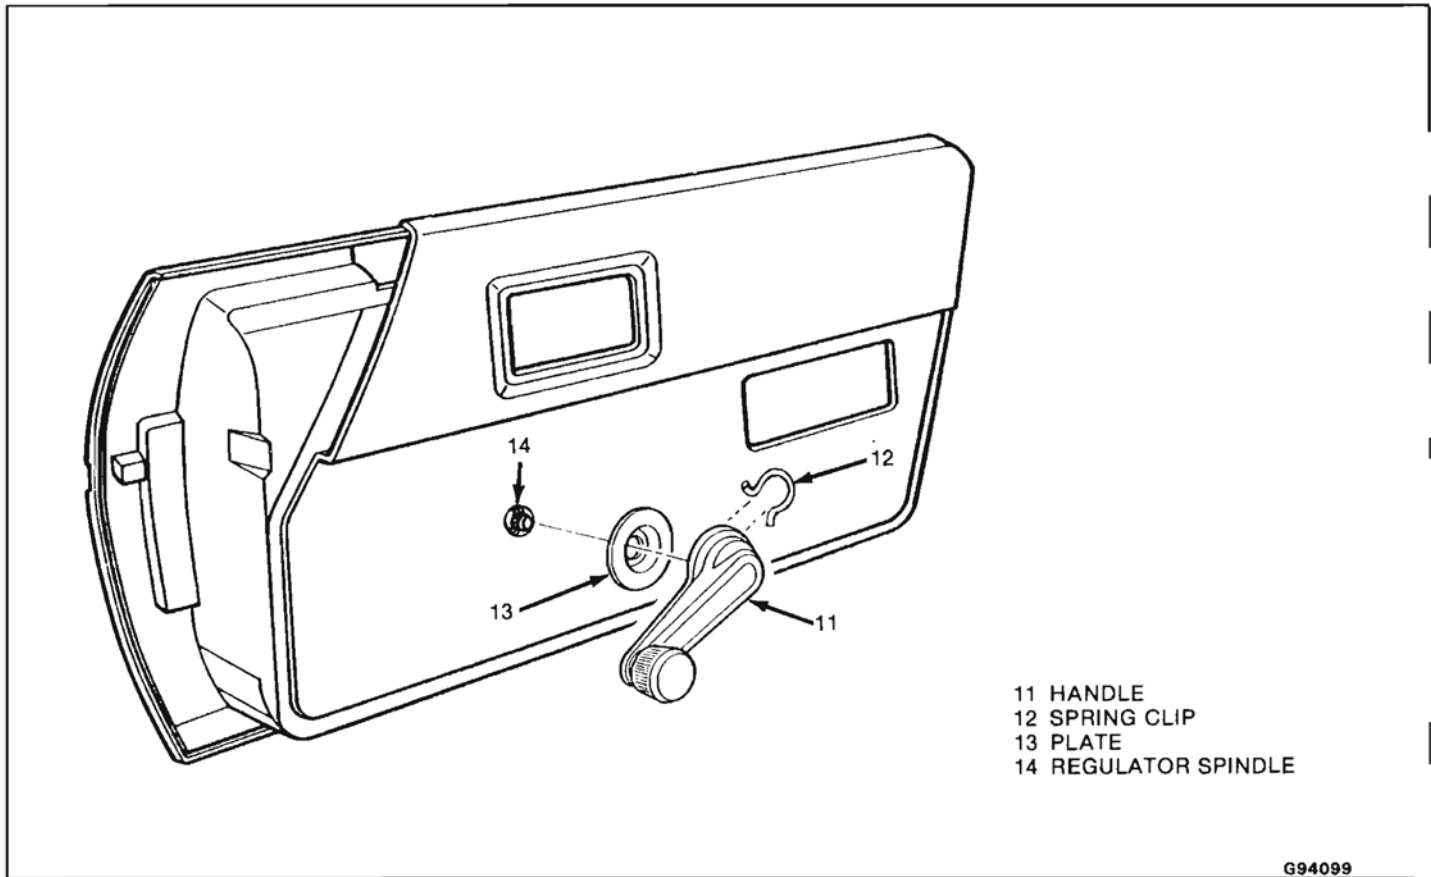

Fig. 2-Window Regulator Handle
WINDOW REGULATOR HANDLE**→ Remove or Disconnect (Figures 2 and 3)**
1. Clip (12)
- Insert J-9886 between handle and bearing plate (13). Tool should be in same plane as handle (Figure 2).
☐ Install or Connect (Figures 2 and 3)